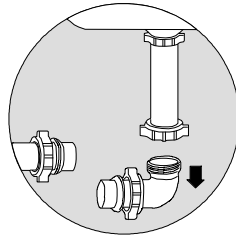
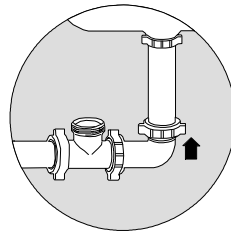

FIG. 8
FIG. 9
2. Slip S.J. nut and beveled waster over both ends of the cut tube, then insert the 3-way repair tee in the following manner: Loosen the S.J. nut on the horizontal waste ell where it joins the vertical tailpiece. (See Fig. 8) Remove the short “ell” piece by pulling down the tailpiece, then put cut ends of ell into a tee and tilt vertical end back up over tailpiece and re-secure S.J. nut. Rotate tee so that the side outlet is facing straight up, then firmly tighten both S.J. nuts to tee. (See Fig. 9)